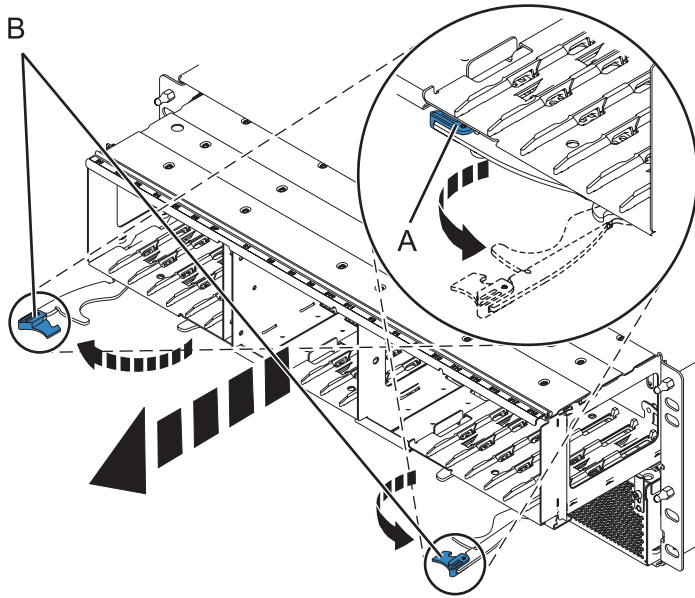

Figure 64. Removing the backplane from the enclosure
6. Remove the backplane as shown in Figure 64 on page 83.
- a. Squeeze the blue latches (A) to unlock the handles.
- b. Pull the handles (B) outward in the direction shown to release the backplane.